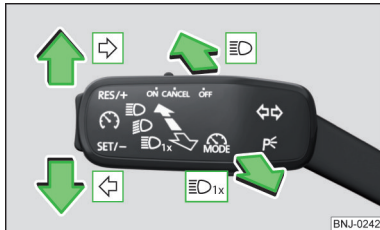

Fig. 55
Control stalk positions » Fig. 55
► Press the control lever all the way into position  or  until it stops » Fig. 55 on page 62.